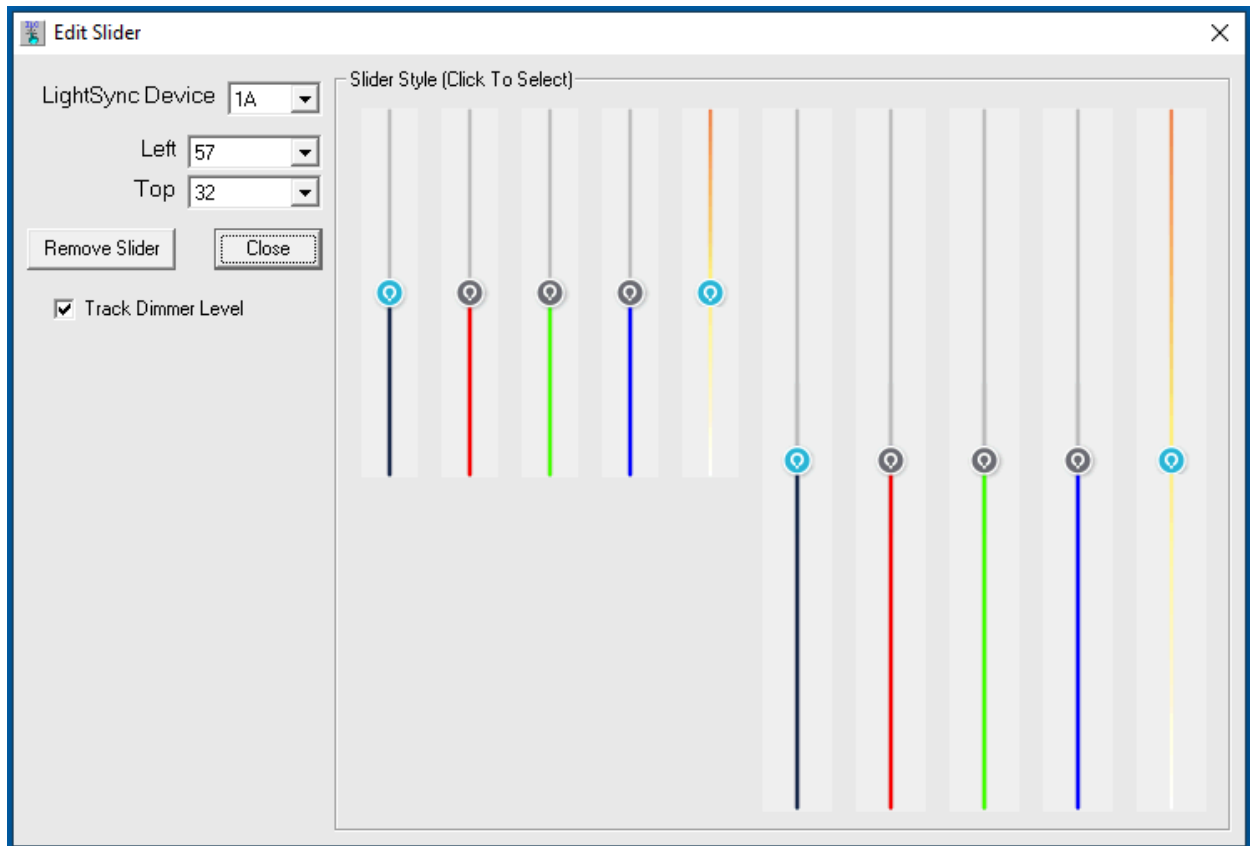

Figure 8 Dimming Slider Options
2. Click on one of the 10 slider icons desired for your dimming as shown in Figure 8.